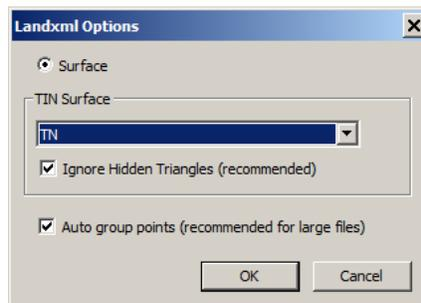

Figure 7: LandXML Options dialog
9. When the *LandXML Options* dialog appears, choose the options as shown in Figure 7 below. Press *OK*.